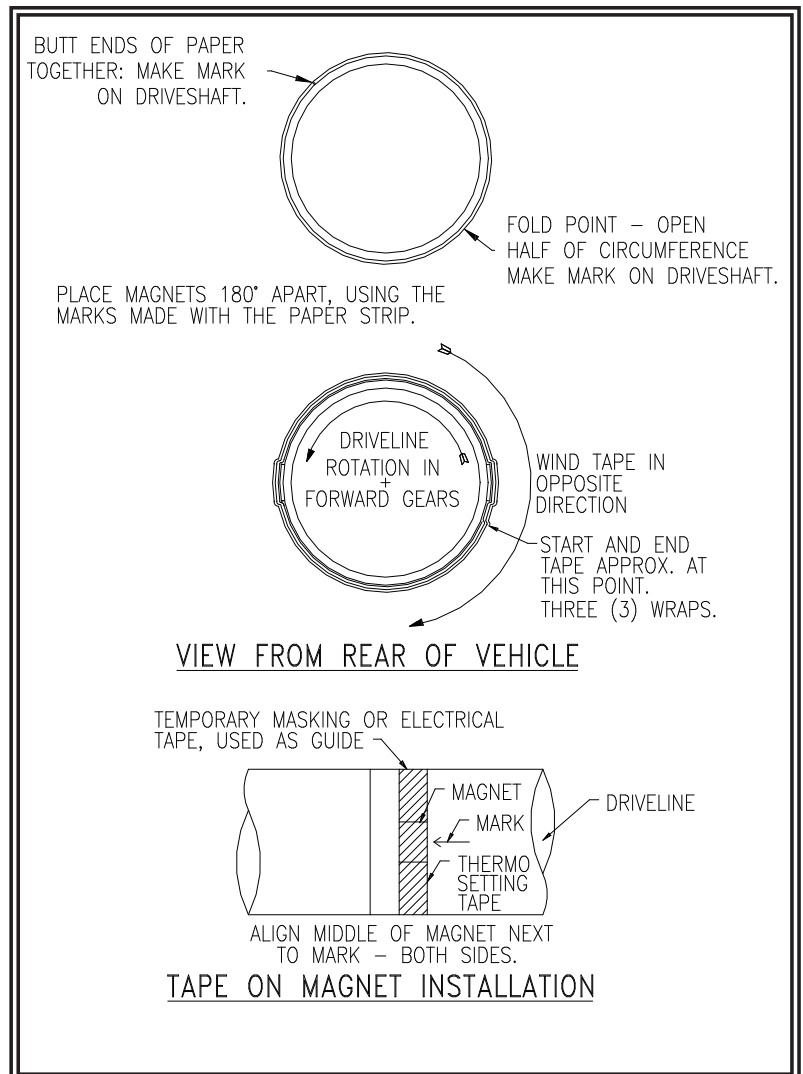

Figure 1
4. Apply the supplied thermosetting tape over the magnets as shown in Figure 1.